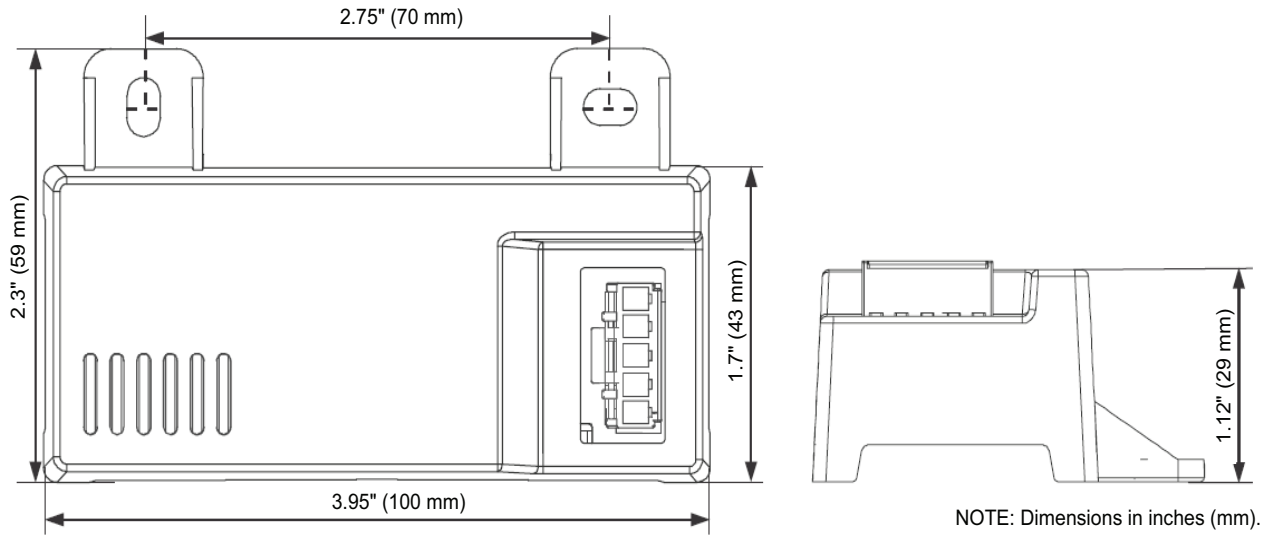
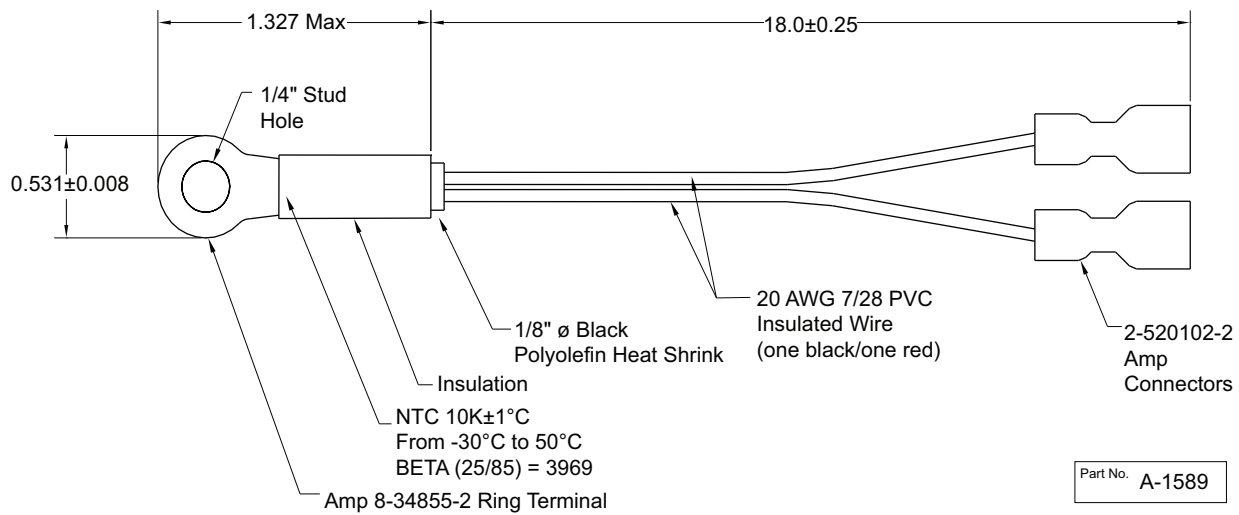
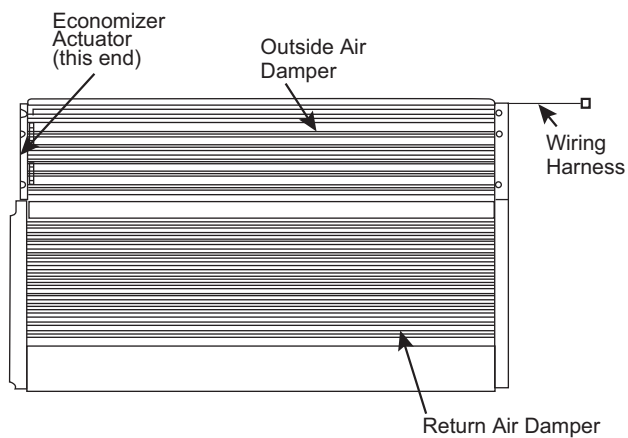

Fig. 84 — HH57LW001 Dimensional, Connection and Switching Information
Fig. 85 — HH79NZ039 Dry Bulb and Mixed Air Sensor Wiring
Fig. 86 — EconomizerONE System Component Locations
When using the HH57LW001 enthalpy sensor (see Fig. 84) for outside air changeover, the existing HH79NZ039 dry bulb sensor (see Fig. 85) must be removed. The enthalpy sensor will be mounted in the same location as the dry bulb sensor (see Fig. 86). When the enthalpy sensor's OA (Outside Air) temperature, enthalpy, and dew point are below their respective set points, outside air can be used for free cooling. When any of these are above their set point, free cooling will not be available. Enthalpy set points are configurable and create an enthalpy boundary according to the user's input. For additional details, see Fig. 87-88 and Table 43.
The optional enthalpy control sensor (P/N: HH57LW001) communicates with the POL224 economizer controller using the 5-wire harness, 48TC005213. The HH57LW001 sensor can be used as a single outside air enthalpy, a differential return enthalpy, or a differential return temperature sensor. Refer to the base unit control wiring diagrams found earlier in this book to wire the HH57LW001 enthalpy sensor for each option. See Fig. 84 and Table 45 on page 78 to locate the wiring terminals for each enthalpy control sensor.
Economizers are shipped standard with an HH79NZ039 outside air dry bulb sensor (refer to Fig. 85). System default setting (high temp limit) is 63°F (17°C) and has a range of 48°F to 80°F (9°C to 27°C). Sensor is factory installed on economizer.
If installing the optional HH57LW001 enthalpy sensor, the HH79NZ039 dry bulb outside air sensor must first be removed. Wire sensor to harness 48TC005213 and the (5) wires from the harness to the EconomizerONE harness in the return air chamber. Harness 48TC005213 has a 5-pin plug that connects directly to the HH57LW001 enthalpy sensor. Refer to the base unit control wiring diagrams earlier in this book for wiring connections. Refer to Fig. 84 and see Table 45.